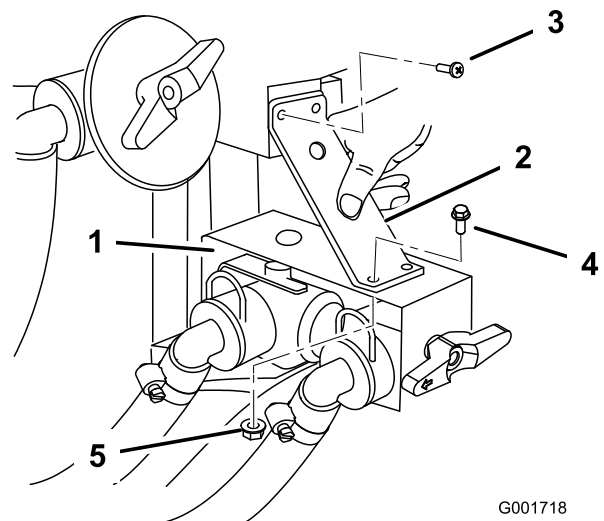

Figure 12
- Install the support bracket over the control valve bracket. Use the two existing screws securing the upper tee assembly to secure upper portion of the support bracket (Figure 12). Secure the lower portion of the support bracket using two flange-head bolts (1/4 x 3/4 inch) and two flange nuts (1/4 inch).